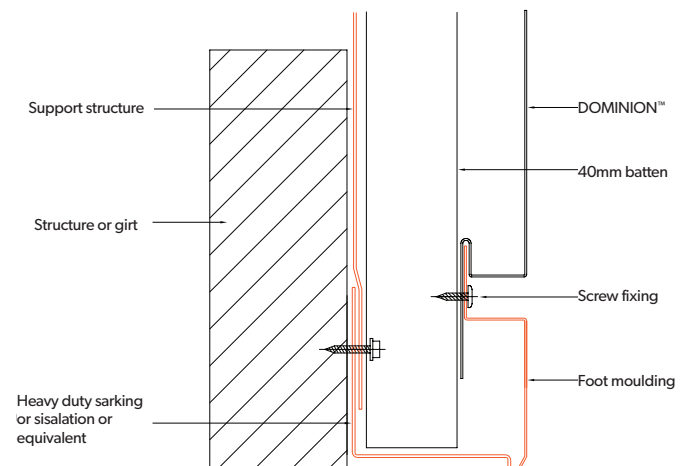

Figure 13.2.5:
5. The perimeter of the membrane must be sealed also with premium quality Sisal tape with holding or 40mm battens to secure it. Figure 13.2.5.